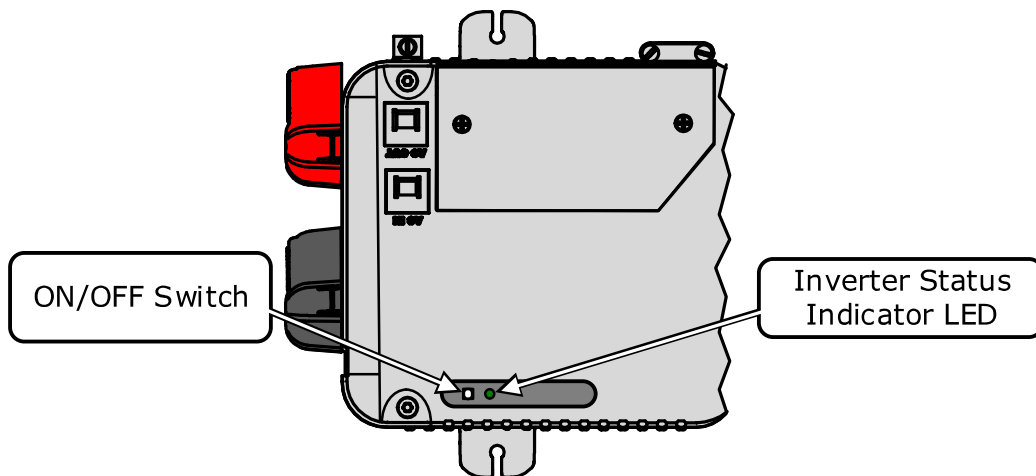

Figure 4-1, Performing an Inverter Reset
2. Press and hold the ON/OFF switch (see Figure 4-1) for approximately fifteen (15) seconds until the Inverter Status Indicator LED comes on and flashes rapidly.